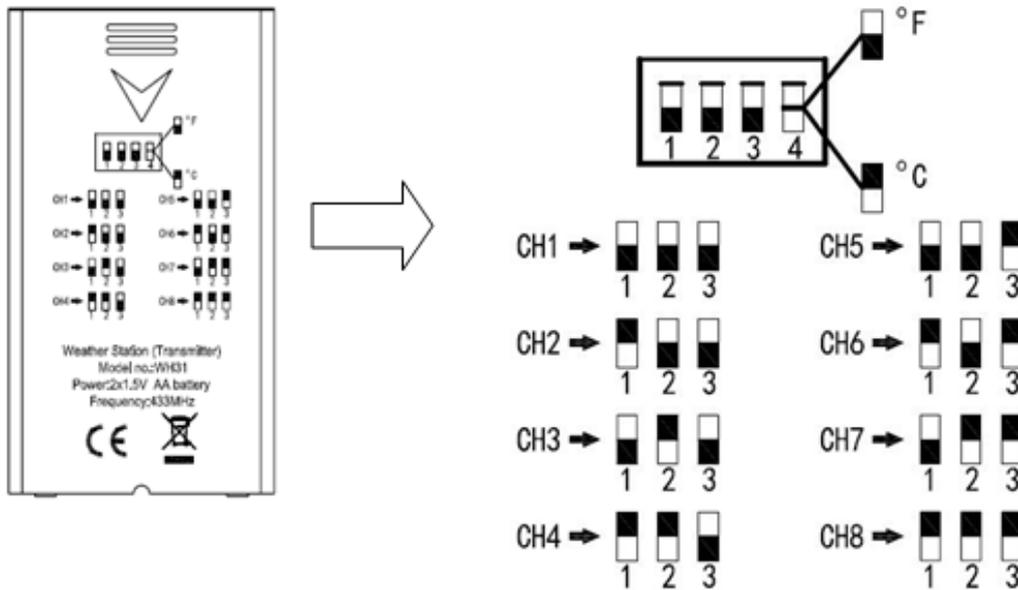

Figure 18
default is Channel 1), change Dip Switches 1, 2 and 3, as referenced in Figure 18.
- Temperature Units of Measure:** To change the transmitter display units of measure ($^{\circ}\text{F}$ vs. $^{\circ}\text{C}$), change Dip Switch 4, as referenced in Figure 18.